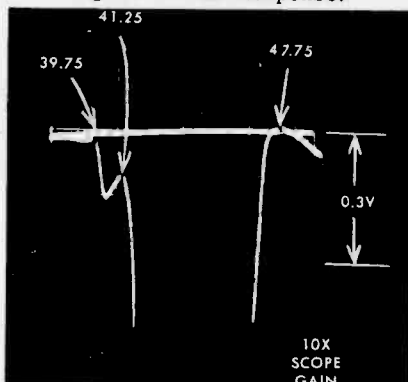

Fig. 11 Expanded View of Traps.
6. Refer to Fig. 11 and adjust the 39.75 Mc, 41.25 Mc, and the two 47.25 Mc traps for minimum marker amplitude as in Fig. 11. It can be seen that high